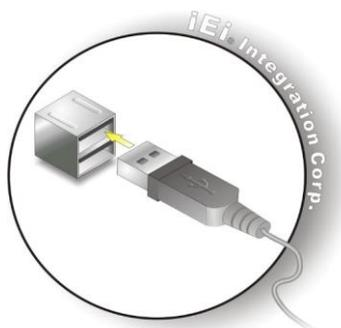

Figure 5-14: USB Connection
Step 2: Align the connectors. Align the USB device connector with one of the connectors on the I/O panel (**See Figure 5-14**).